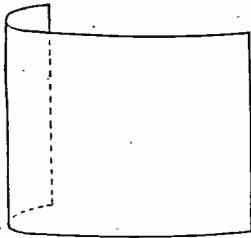

Fig. 10.—Illustration of line foldover.
**B**Y foldover we mean a turning back of the scan on itself so that it appears like the fold of a curtain. Fig. 10 shows the fault (the actual lines have been omitted for the sake of clarity). In the illustration it is shown in the line circuit, but similar conditions can exist in the frame circuit, the foldover appearing at the top of the scan.